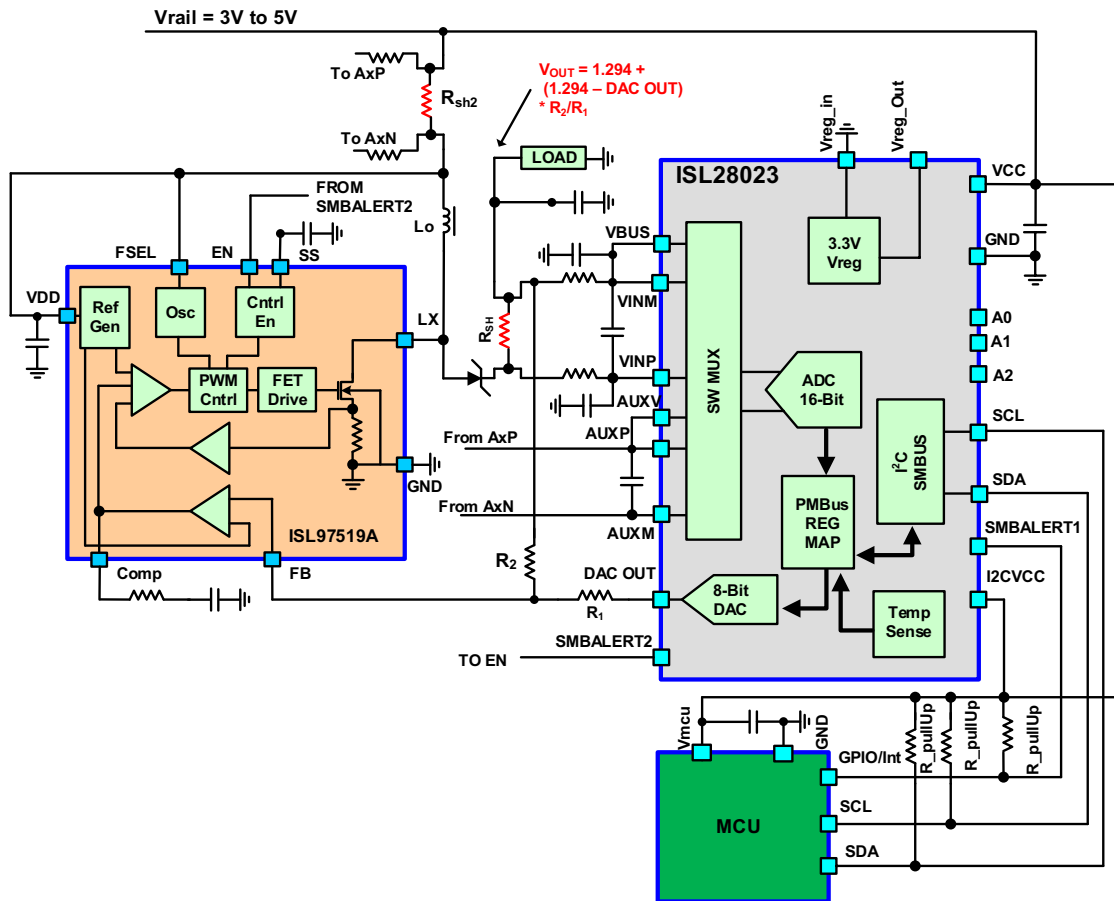

FIGURE 16. GENERIC POL CIRCUIT USING A BOOST CONVERTER AND THE ISL28023
The circuit in Figure 16 is a generic circuit that boosts the input voltage to a set output voltage that is dependent on the 8-bit DAC inside the ISL28023. The ISL97519A can boost input voltages from as low as 2.3V to 25V. The circuit in Figure 16 is able to boost input voltages from 3V to 25V. This is due to ISL28023 minimum supply voltage.
The circuit in Figure 16 is designed with two shunt resistors ( $R_{SH1}$ ,  $R_{SH2}$ ) to measure the efficiency,  $\eta$ , of the regulator.  $R_{SH2}$  resistor measures the total current to the regulator and the load.  $R_{SH2}$  is connected to the auxiliary channel of the ISL28023. The auxiliary channel can accept voltages from 0 to  $V_{CC}$  of the ISL28023. A basic filter is designed between the  $R_{SH2}$  and the auxiliary input. The filter may not be required depending on the desired accuracy of the measurement, and the signal purity from the input source,  $V_{rail}$ .
- For Figure 16, the input voltage is between 3V and 25V.